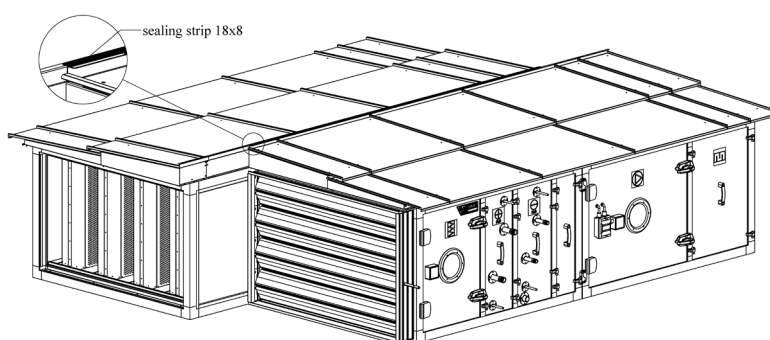

Figure 7.6
11. Assemble the opposite side of the roof segments in the same way as the first one. Complete frame assembly is shown in Figure 7.6.
12. Apply supplied sealing strip 18x8 on segments in the middle, as shown in Figure 7.6.